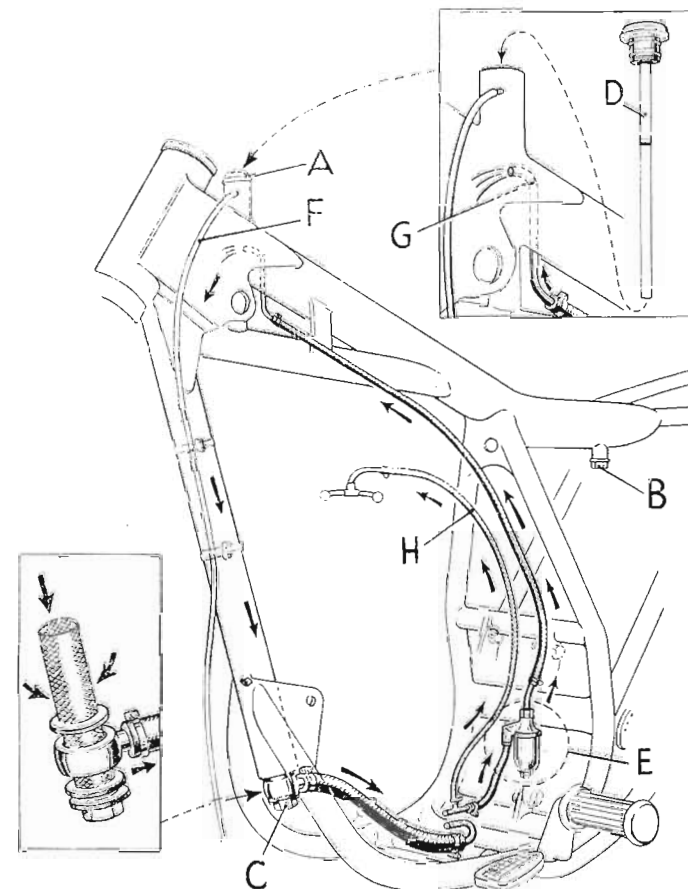
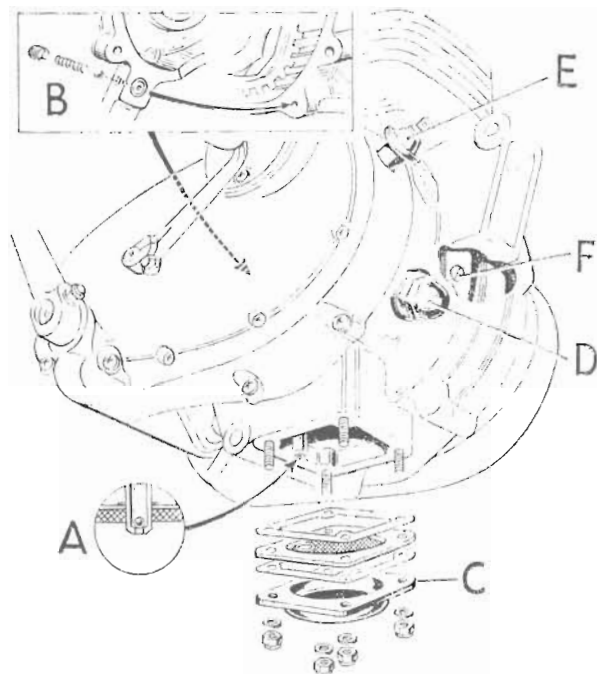

FIGURE 7.
FIGURE 8. The engine lubrication system showing the ball valves (the oil pressure switch is fitted to 250 cm3 engines only).
The lubrication system is of the dry sump type and is operated by a double gear-pump situated in the bottom of the crankcase on the right-hand side. Oil is drawn from the reservoir by the supply pump and is then delivered past the non-return valve (B) FIG. 8, through a duct in the mainshaft to the big-end.
After lubricating the motor, the oil drains through a filter to a small sump in the bottom of the crankcase, from which it is drawn by the scavenge pump past the non-return valve (A) FIG. 8, and delivered to the oil reservoir. If the filler cap (A) FIG. 7, is removed while the motor is running, the returning oil should be seen issuing from the pipe (G) FIG. 7, below the filler neck. The flow of oil will in all probability contain air bubbles, but this is a normal condition due to the larger capacity of the return pump. IF THERE IS NO FLOW FROM THE PIPE, STOP THE MOTOR IMMEDIATELY AND INVESTIGATE THE CAUSE (see "Pump Ball Valve", page 18).
A by-pass pipe (H) FIG. 7, leads a supply of oil to the rockers, push rod ends, etc.
The valve (B) FIG. 8, prevents oil transfer from the reservoir to the crankcase while the machine is not in use and, together with the flywheel centrifugal filter (F), does not require attention until such time as the motor is completely dismantled.
A by-pass valve (D) FIG. 8, limits the pressure in the lubricating system, excess quantities of oil being returned by the scavenge pump to the reservoir. This valve should not be removed until the motor is dismantled for servicing.
#### OIL PRESSURE SWITCH (250 cm3 models only) — (E) FIG. 8
This should preferably be carried out immediately after running when the oil is warm and will, therefore, flow more freely. Remove the filler cap (A) FIG. 7. Unscrew the drain plug (B), at the base of the oil reservoir, for which purpose it will be necessary to remove the right side panel and the battery (except Moto-cross models). Next, unscrew the filter (C) at the lower end of the front down tube, collecting the oil in a suitable receptacle. Clean the filter (see below) and replace, together with the drain plug.
The oil capacity is 4¾ U.S. pints (4 British pints) and the normal level is given on the dipstick (D) FIG. 7, attached to the filler cap.
The crankcase filter is retained by the sump plate (C) FIG. 8, which is released following removal of four nuts of the self-locking type. If worn or damaged they must be replaced by similar nuts.
The main filter (C) FIG. 7, is unscrewed from the bottom of the front down tube. It is essential that the fiber washers are fitted when the filter is replaced and that the filter itself is securely tightened.
An external oil filter E is fitted in the oil return line from the crankcase to the reservoir, FIG. 7, and is located behind the engine. It must be dismantled for cleaning at the same time as the above filters and for this purpose the bowl must be withdrawn.
The crankcase breather pipe (emerging from the timing case, near the clutch cable) and the oil reservoir breather pipe (F) FIG. 7, must be examined regularly and maintained clear of any obstruction.
When the crankcase filter is removed for cleaning, it is a good opportunity to check the ball valve (A) FIG. 8, carried in the pump suction pipe. The ball must be free on its seating. If the ball adheres to its seating, there will not be a return flow of oil to the reservoir and the crankcase may become flooded. Alternatively, if the crankcase contains an excessive quantity of oil this may be due to the ball not seating properly caused by a particle of foreign matter so allowing oil to pass through the pump to the crankcase when the motor is stationary.